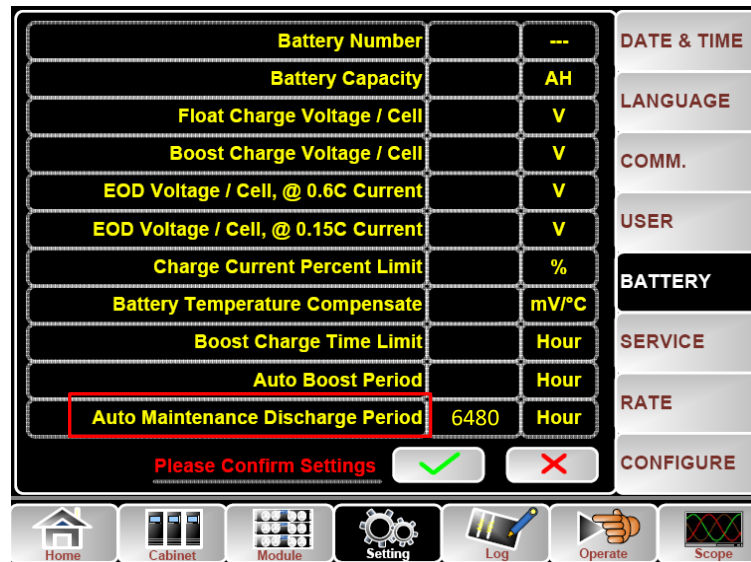

Figure4-4 Setting period for battery auto discharge
- (b) Setting period for battery auto discharge. Enter the "BATTERY" page of the Setting (See Figure4-4), Set the period time in the item "Auto Maintenance Discharge Period" and confirm.